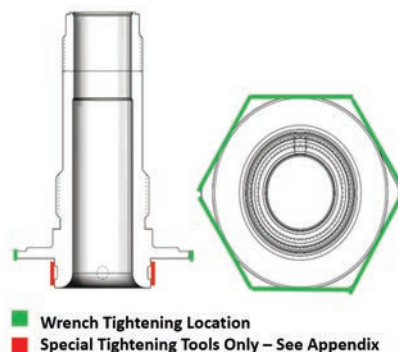

Figure 33: IS Nozzle Tightening Locations
- a. With a wrench/socket loosen the nozzle at the wrench location in Figure 33.
- b. Using of a three or four-jaw chuck welded vertically to a stand bolted to a concrete floor or the 1900/2900 Nozzle Assembly Tool with the correct 2900 Integral Sense Torquing Tool Insert per the drawing in Section XXIII, loosen the nozzle at the Special Tools Only location in Figure 33.